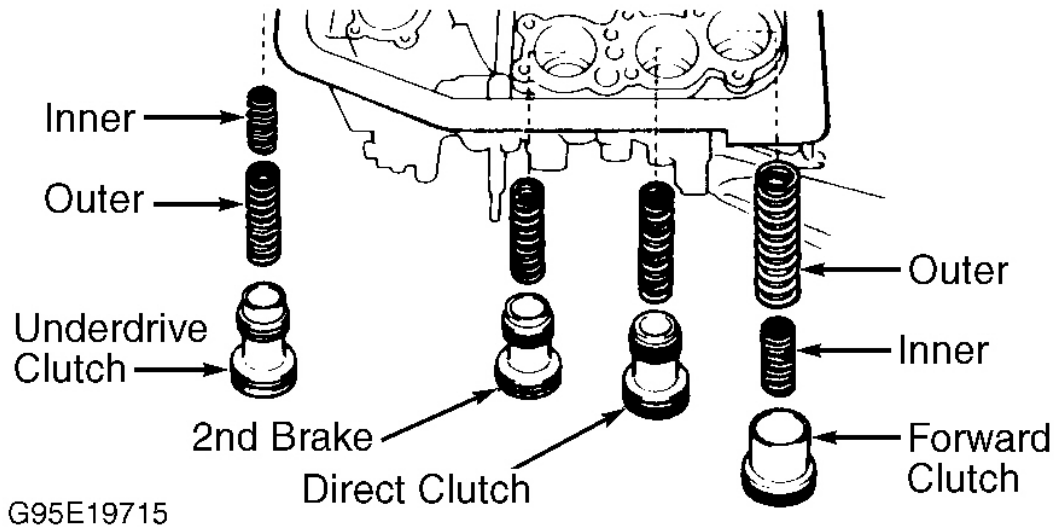

Fig. 85: Identifying Accumulator Pistons & Springs
32. See **ACCUMULATOR SPRING SPECS (A-242L, A-241E & A-244E)** table. Install pistons and springs in transaxle case. See **Fig. 85** . Install accumulator cover and NEW gasket. Tighten bolts to 89 INCH lbs. (10 N.m).
(1) For accumulator spring locations, see Fig. 85 .